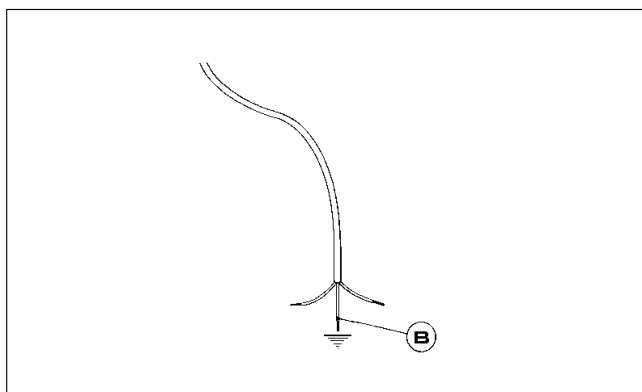

FIG. 16
If the power supply cable is replaced, the installer should leave the ground wire (B) longer than the phase conductors (fig. 16) and comply with the recommendations given in paragraph 6.